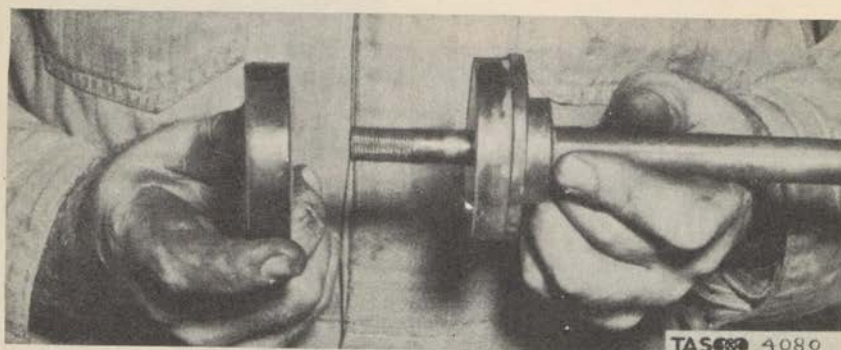

Figure 116. Removing Hydraulic (Neoprene) Cup.
(14) Remove the hydraulic (neoprene) cup. (Fig. 116)